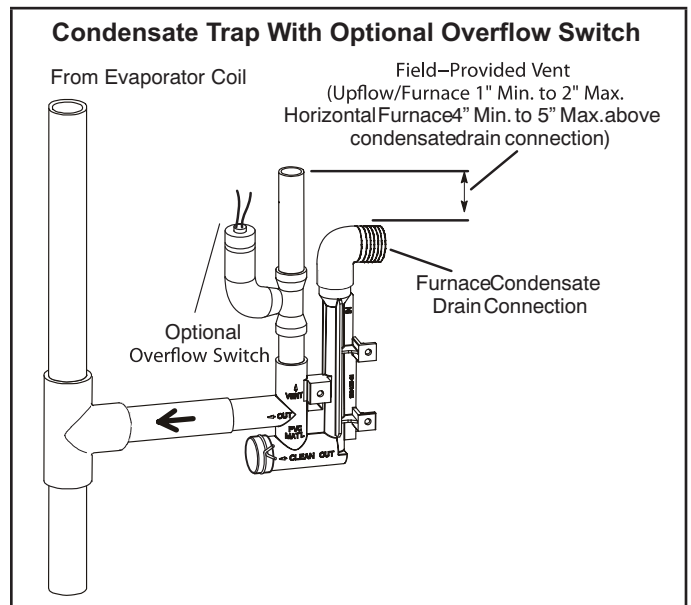

FIGURE 47
- 2 - Use a large flat head screw driver or a 1/2" drive socket extension and remove plug (figure 47) from the cold end header box at the appropriate location on the side of the unit. Install provided 3/4 NPT street elbow fitting into cold end header box. Use Teflon tape or appropriate pipe dope.